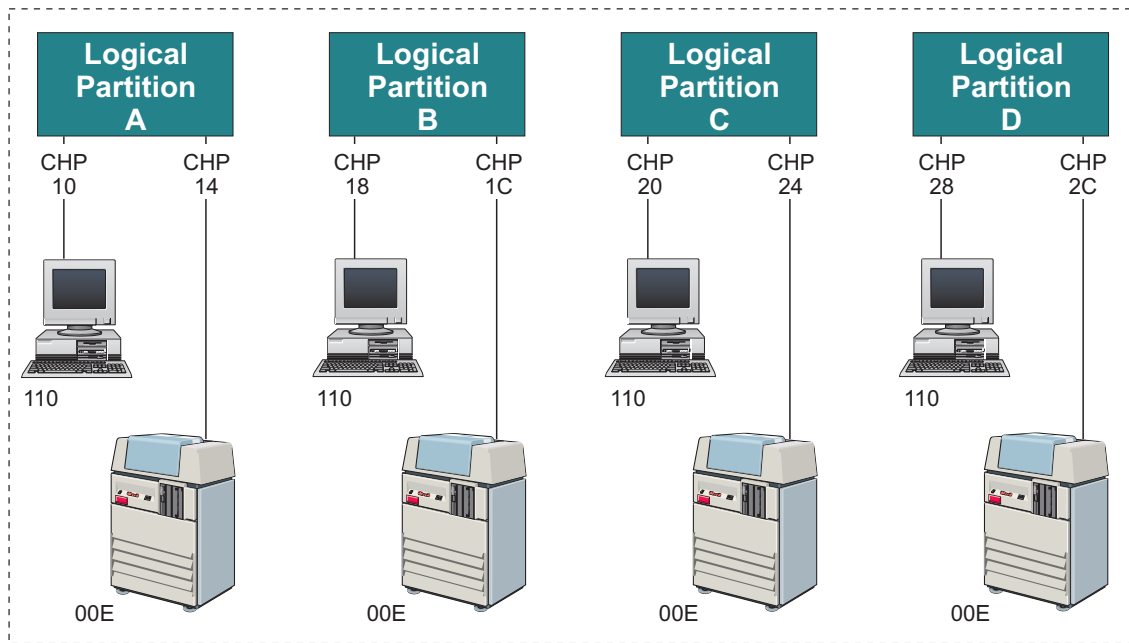

Figure 20. LPAR configuration with duplicate device numbers
Figure 20 on page 58 illustrates a configuration where duplicate device numbers are used to represent a console (110) and a printer (00E) within each of four logical partitions.
The following example shows the IOCP statement for Figure 20. This IOCP coding example groups the input statements by logical partition. When coding IOCP, view the I/O devices from a logical partition perspective.